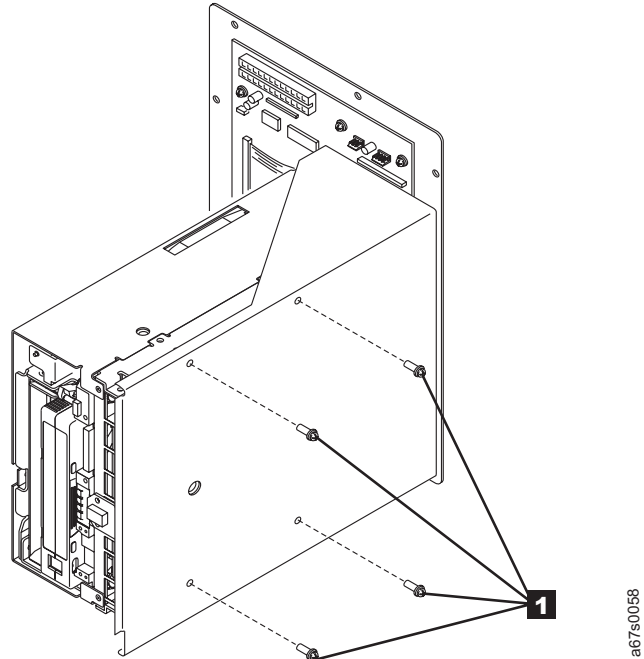

Figure 35. Removing the drive assembly sled from the tape drive
- a. Using a Phillips screwdriver, remove the four screws (**1** in Figure 35) that secure the drive assembly sled **2** to the drive **3**. Set the screws aside.